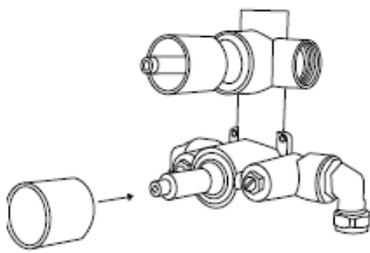

Fig 4
7. Screw the two chrome cover sleeves onto both the control shafts (See Fig 4, this has been done on some valves when you open the box).